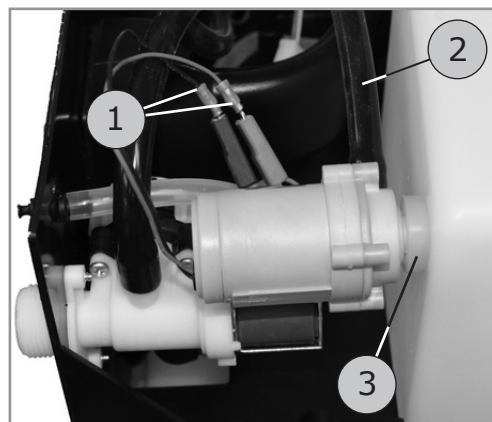

Figure 30
2. Loosen the pump's electrical connections (1, figure 30).
3. Remove hose (2) between pump and heater tank.
4. Remove the pump from its inlet (3).
5. Mount the new pump in reverse order. Note the colour markings on the cable clips (1).